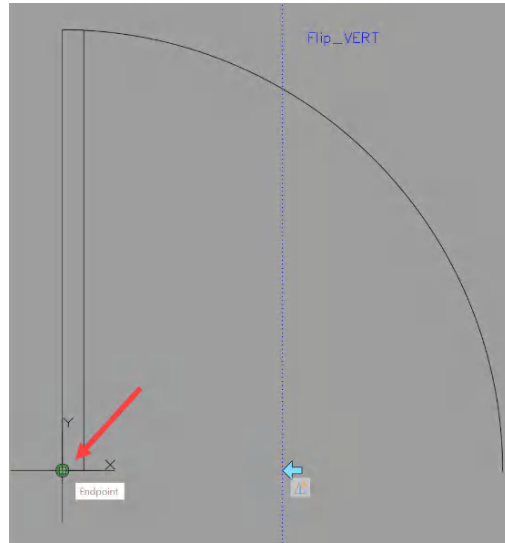

Figure 11.19: The Endpoint object snap on the door rectangle
2. Select the **Flip** parameter, as you did in the previous section. You will be prompted for the base point of the reflection line. Using object snaps, click on the lower-left **Endpoint** of the door rectangle, as shown in *Figure 11.19*. This is the same point you selected for the **Basepoint** parameter.